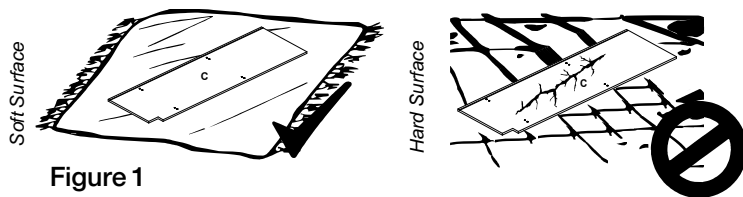

Figure 1
1. Unpack box & identify pieces on Page 2. Place side panel (C) onto a soft work surface. (Figure 1)